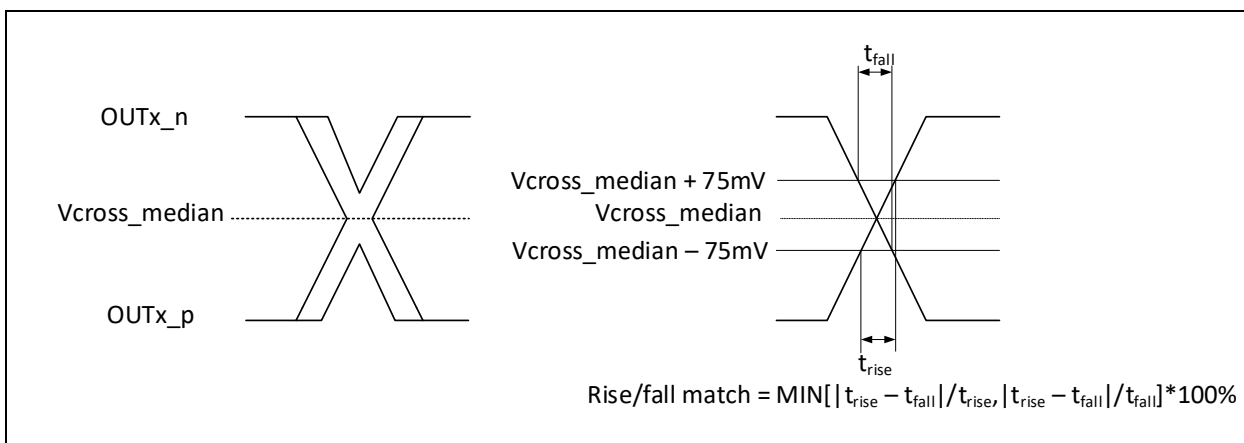

Figure 16. Single-Ended Measurement Points for Rise and Fall Time Matching
(12) Matching applies to rising edge rate for CKx and falling edge rate for CK#x. It is measured using a ±75 mV window centered on the median cross point where CKx rising meets CK#x falling. The median cross point is used to calculate the voltage thresholds the oscilloscope is to use for the edge rate calculations. The Rise Edge Rate of CKx should be compared to the Fall Edge Rate of CK#x the maximum allowed difference should not exceed 20% of the slowest edge rate. See Figure 16.
(13) Clock DC impedance tolerance depends only on the tolerance of external 50Ω shunt resistors used in HCSL. The test used resistors with +/-1% tolerance.